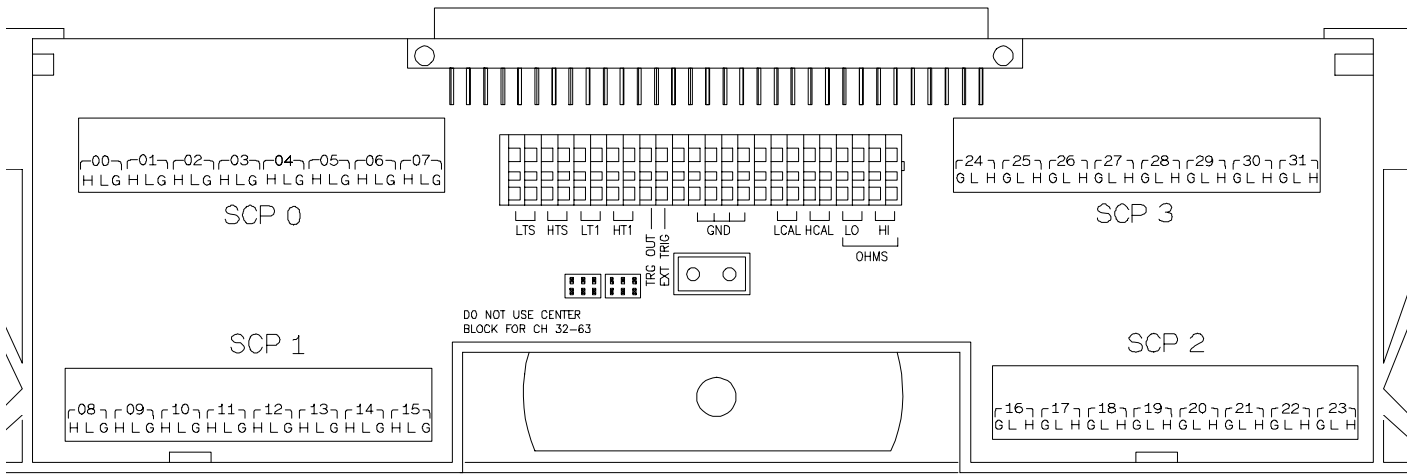

Figure 2 HP E1503 B-size Terminal Module Connections (Ch 00-31)
- For HP E1313 Terminal Modules, use stickers for HP E1503 SCPs. The connections are shown in Figures 2 and 3.